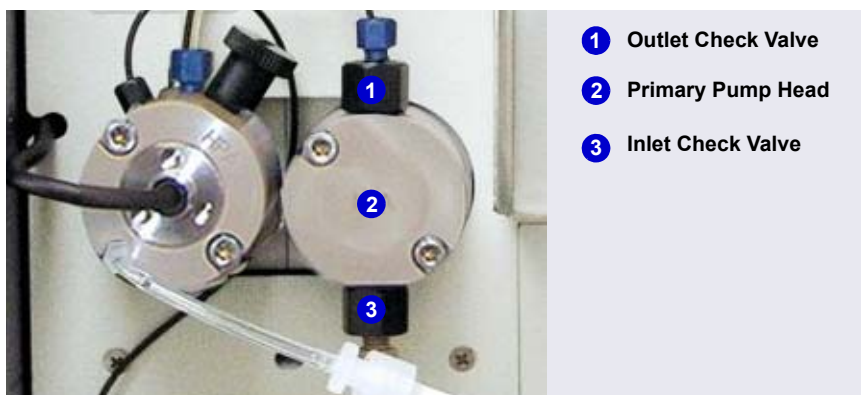

Figure 9-3. DP/SP Check Valves
7. The check valves are installed in the primary pump head (see Figure 9-3).